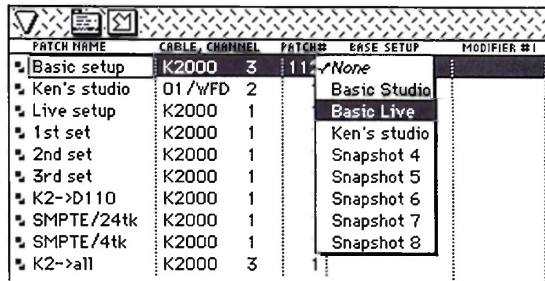

Figure 10-3: Assigning a base setup to a patch. Note: a patch does not require a base setup.
- If desired, choose a base setup from the base setup pop-up menu as shown below in Figure 10-3.